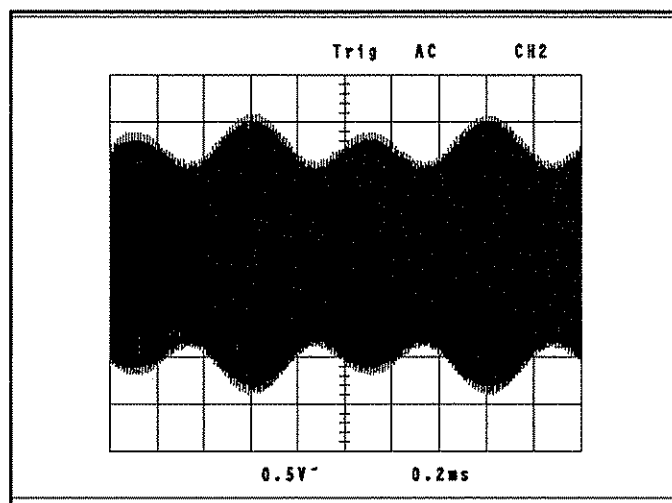

Figure 5-1.
- c. Apply a +10 dBm, 1 kHz, L-R signal at the Left and Right channel audio inputs of the exciter. Using the oscilloscope, view the 'QUAM' waveform at TP6 on the AMS-G1. Adjust the 'QUAD ADJUST' pot R278 until the peaks of the waveform are of the same amplitude. See Figures 5-1 and 5-2. R278, if misadjusted, can increase stereo distortion.